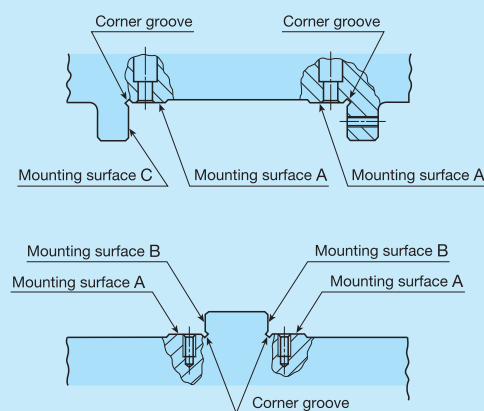

Fig. 15 Mounting surface
- While making the way sticking to B surface (refer to Fig. 15) tight, fully tighten the screws to the specified torque.